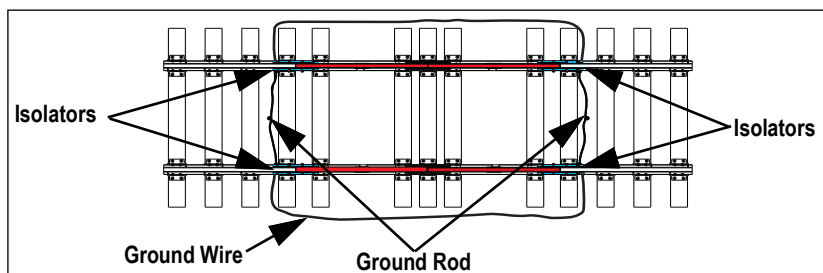
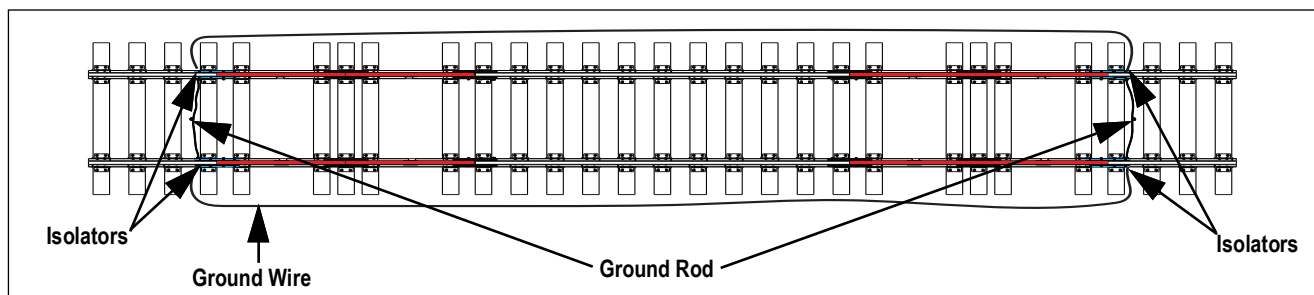

Figure 4-1. Ground Rod Locations – Double-Draft System
Figure 4-2. Ground Rod Locations – Full-Draft System
1. Install ground rods at the locations specified in Figure 4-1 and Figure 4-2. Rods should be driven into the ground so the tip is approximately at the height of the railroad tie surface.